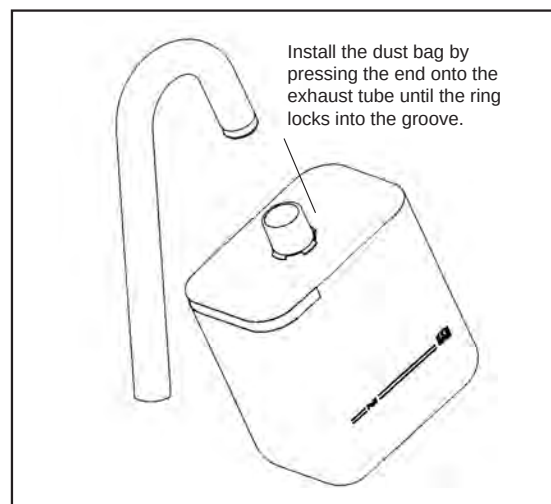

Figure 10
1. Install the dust bag by pressing the end onto the exhaust tube until the ring locks into the groove (figure 10). This is best done by pressing on the back of the bag opening with the palm of your hand.